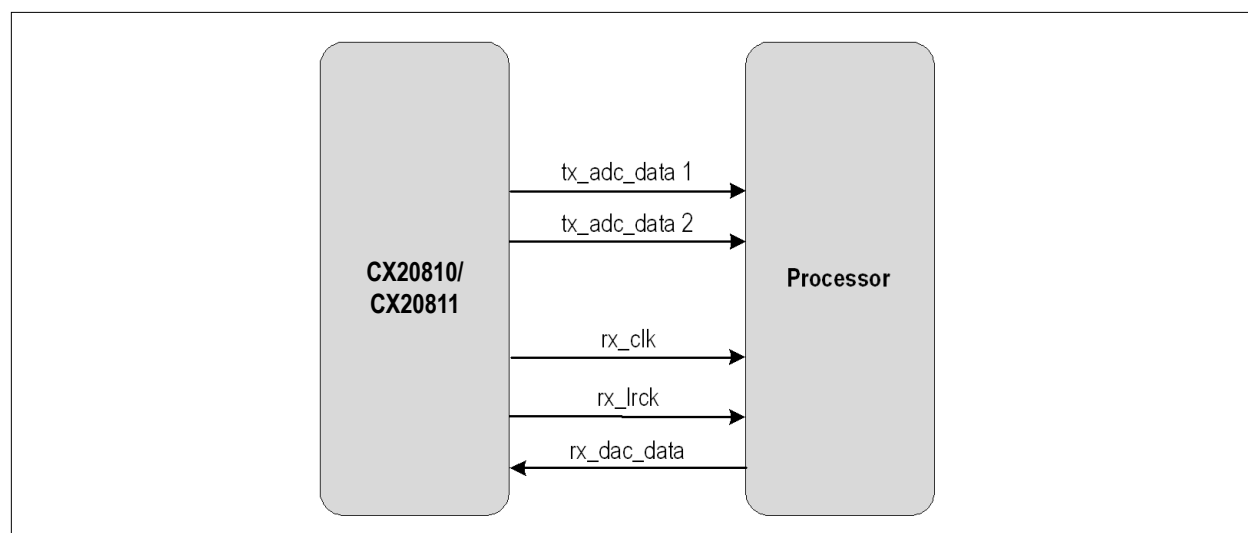

Figure 89: Five-Wire Master Mode with DAC BCLK, LRCK
- Figure 89 on page 168 provides the five-wire master mode with DAC BCLK/LRCLK